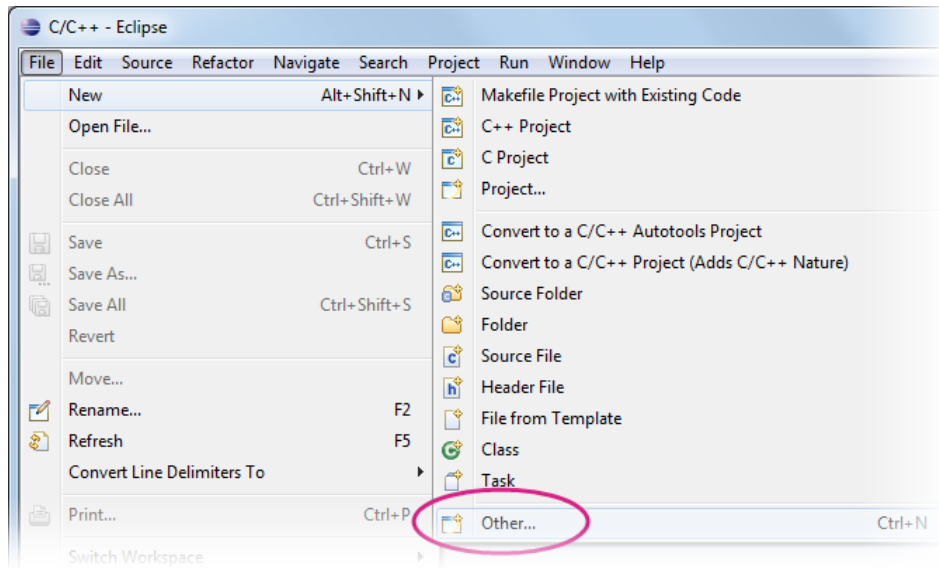

Figure 16 Creating new LinkIt Assist 2502 application
- 1) The first step is to create a new LinkIt Assist 2502 application. In the Eclipse IDE **File** menu, point to **New** and click **Other**, as shown in Figure 16, or use the CTRL+N keyboard shortcut.